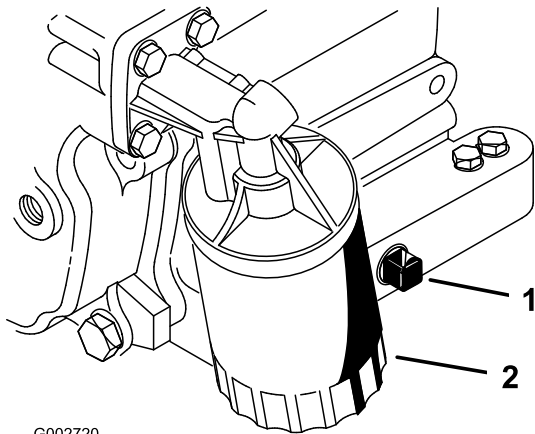

Figure 28
2. Remove the drain plug (Figure 28) and let the oil flow into a drain pan. When the oil stops, install the drain plug.
3. Remove the oil filter (Figure 28).